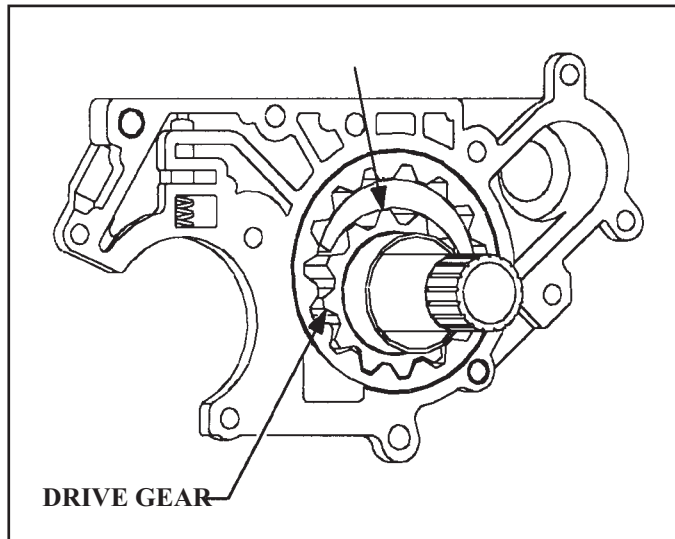

Figure 149
7. Measure the clearance between the drive gear and the crescent in the pump housing as shown in Figure 149.